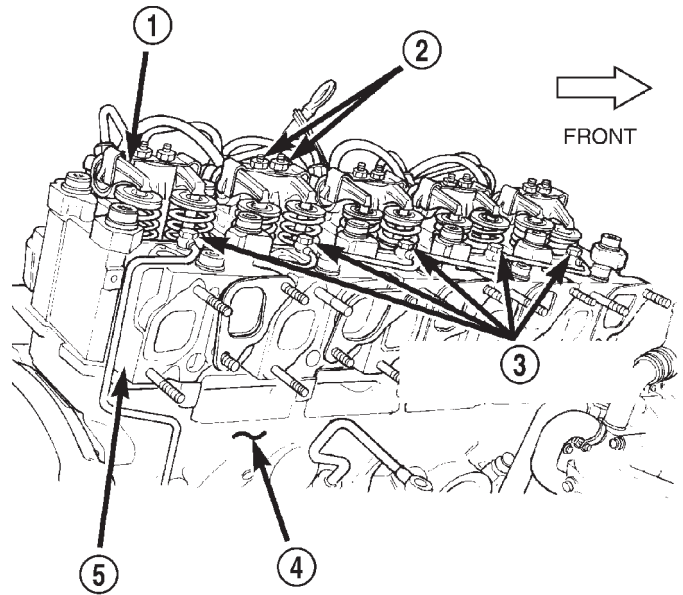

Fig. 59 Rocker Arm Oil Feed Lines
(23) Remove the oil feed line for rocker arm assemblies (Fig. 59).
(24) Remove the Crankcase breather hose from front of the valve cover
(25) Remove the injector sensor wire and the glow plug hot lead.
(26) Remove the fuel injector supply lines from injectors.